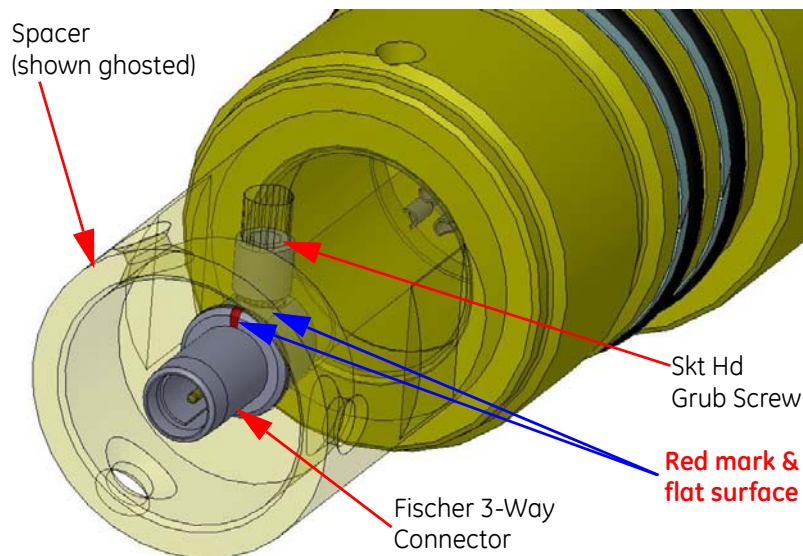

Figure 5-17 Correct installation of the Fischer 3-Way Connector
- 2 Place a 15mm length of Heatshrink Sleeve (**P/N: A011-001M2**) over each wire to be connected to the Fischer 3-Way Connector (**item 15**).
- 5 With reference to **Figure 5-17**, insert carefully and fully (make sure the wires are not trapped) the Fischer 3-Way Connector in the Spacer (**item 8**). Make sure the flat surface (red mark) faces the location for the Skt Hd Grub Screw (**item 20**).